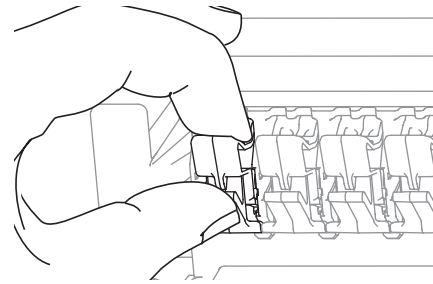

Figure 13
2. Pinch, then pull back the appropriate toggle (Figure 13).
1. Pinch then pull back the appropriate toggle (Figure 13).